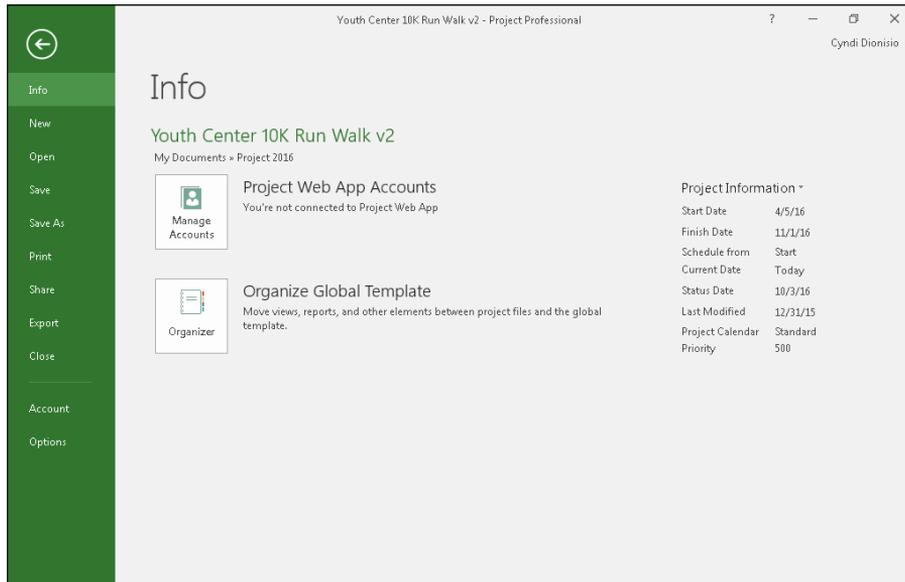

Figure 2-3:
- ✓ **Choose File ⇨ Info.** In the Project Information section on the right side of the screen, as shown in Figure 2-3, you can enter the start, finish, current, and status dates for the project.